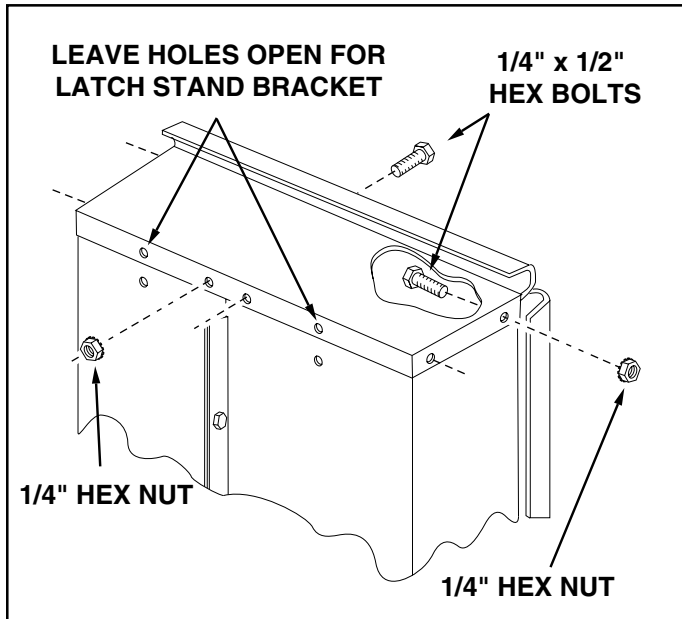

FIGURE 5
9. Assemble the front panel over the end of the cart using six 1/4" x 1/2" hex bolts and 1/4" hex nuts as shown in figure 5. Leave two holes in the bottom of the panel empty as shown. With the cart body halves pulled together, **tighten** the bolts in the bottom of the front panel, then **tighten** the bolts in the sides. See figure 5.